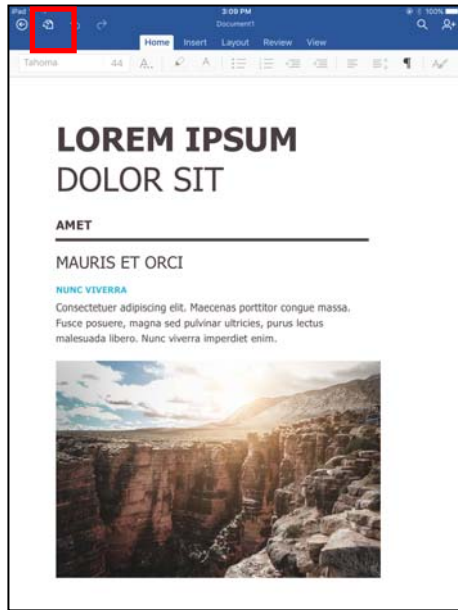

Figure 39
2.3 Click the menu icon on the upper left of the “Word” software interface, as shown in Figure 39.